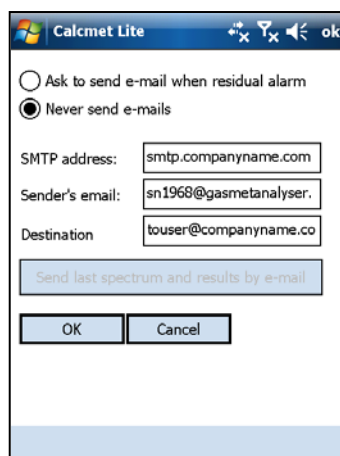

Figure 23. E-mailing options.
- The correct SMTP and email addresses have to be set from Settings → E-mail (Figure 23).